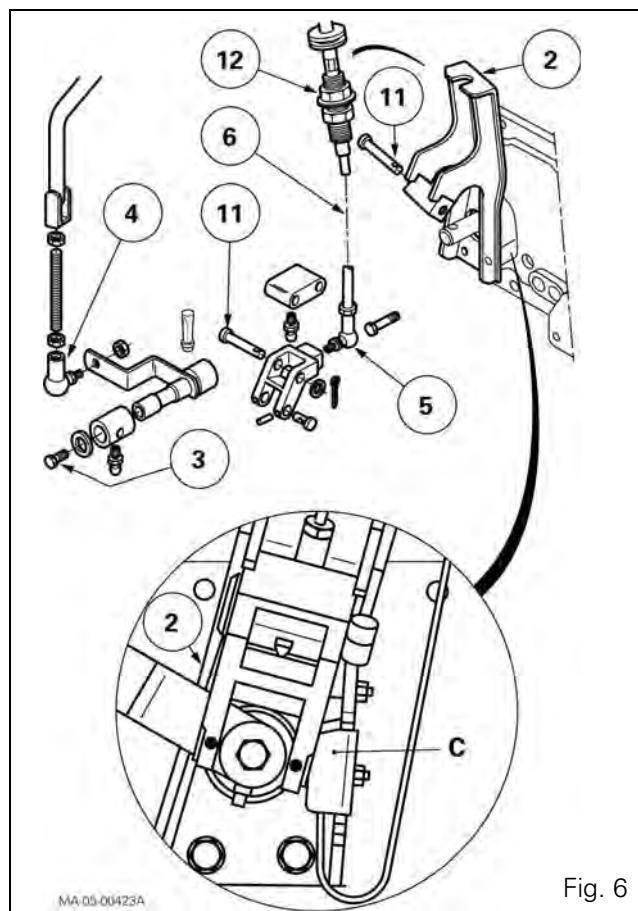
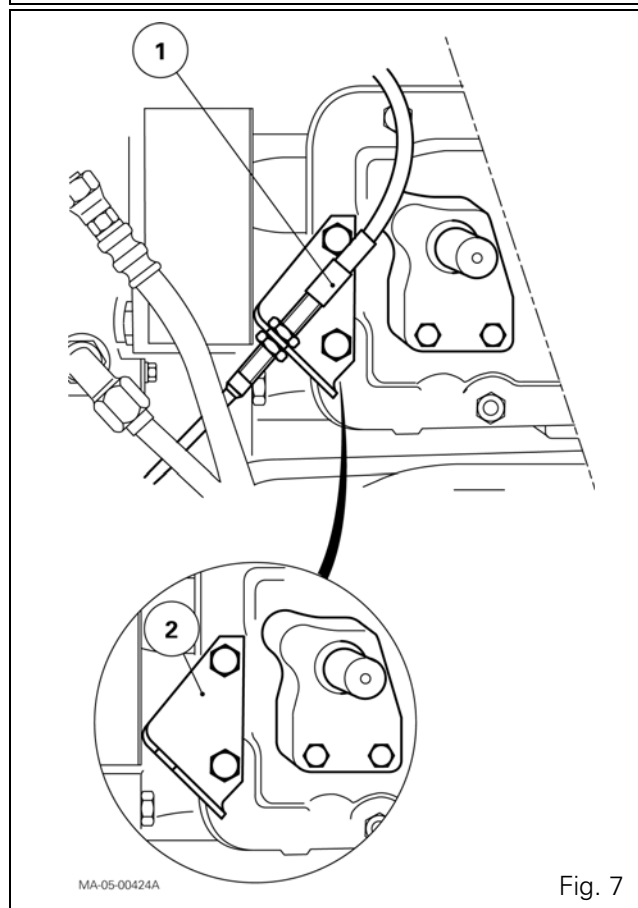

Fig. 6
Fig. 7
Removal (Fig. 6)
8. Disconnect the harness of sensor "C" (Fig. 6). Remove the ball joint (4). Remove the screw (3).
9. Remove the pins (11). Disconnect the ball joint (5).
10. Mark the adjustment of the cable (6). Slightly loosen the top nut (12) and separate the cable from the support (2).
11. Disconnect the control cable (1) from the creeper unit on tractors fitted with this option (Fig. 7).
13. If fitted, remove the support (2) of the creeper unit control cable (Fig. 7).